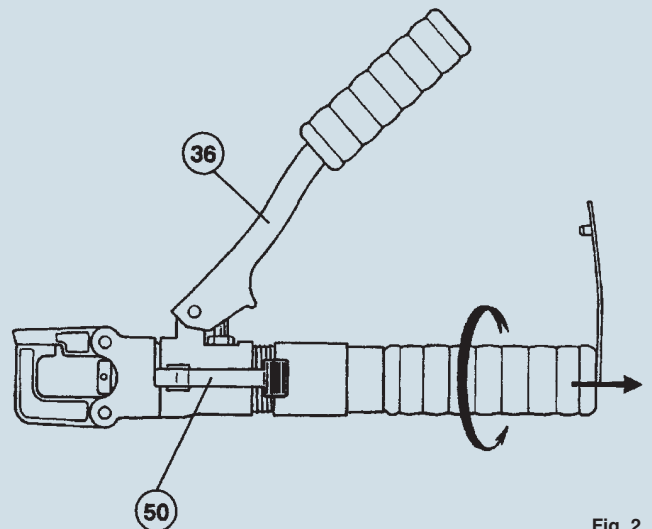

Fig. 2
**"NO GO"** - Insert the end of the gauge as shown (Fig. 2).